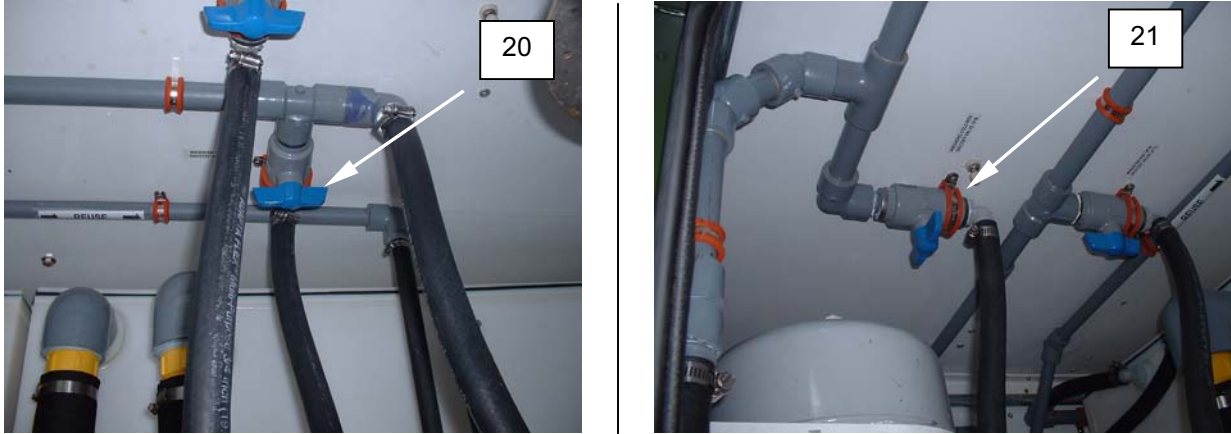

Figure 6. Purge Automatic Soap Dispenser.
5. Close washer No. 1 hot water inlet V-5 (**Figure 6, Item 20**).
6. Close washer No. 2 cold water inlet V-8 (**Figure 6, Item 21**).